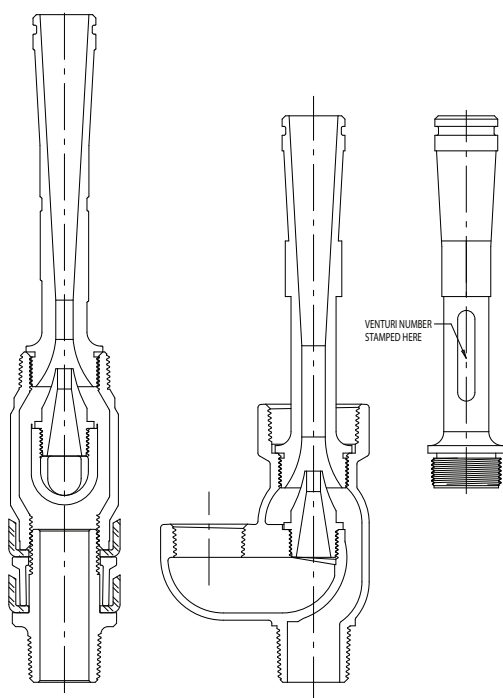

Figure 1
3. Install the proper nozzle and venturi in the jet body. Refer to Figures 1 and 2 for proper installation.